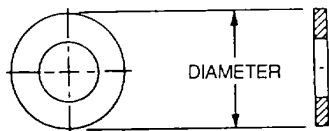

Figure 2-29. Plain Washer
*a. Plain Washers.* The AN960 plain washer, as shown in figure 2-29, is used under AN hexagon nuts to provide a smooth bearing surface. It acts as a shim in obtaining the correct relationship between the threads of the bolt and the nut. It will adjust the position of castellated nuts with respect to drilled cotter pin holes in bolts.
(1) Uses. The general rule is to use one washer under each nut. However, if one washer fails to cover the underthread grip or fails to place the nut in the proper position for cotter pins, then one more washer may be added. If more than two washers are needed, the bolt length should be changed. Other use criteria are as follows.